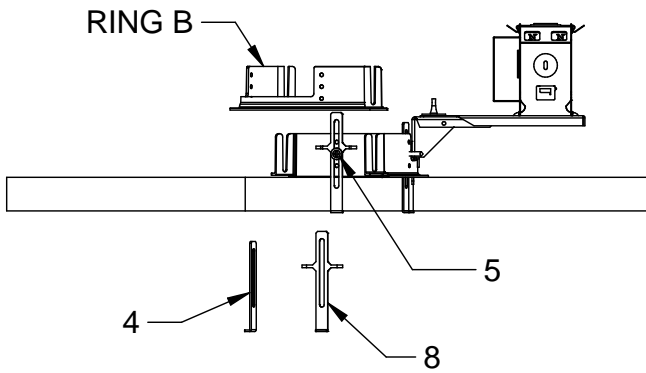

FIG. 3
- D. Repeat step C for RING "B". Ensure that RING "A" and RING "B" are mated and interlocked when securing RING "B" while ensuring that the two retaining clips (8) are opposite of each other. (SEE FIG 3 and 4)